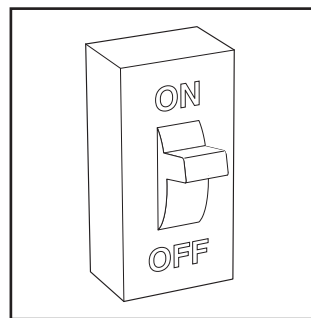

Fig. 14 – Turn on Electrical Supply
8. Turn ON the electrical supply to the furnace and wait one minute. See Fig. 14.